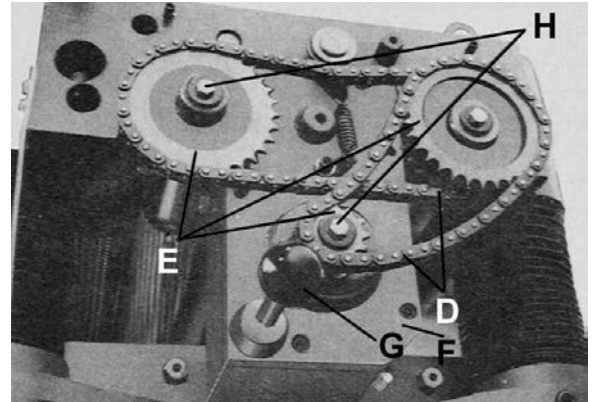
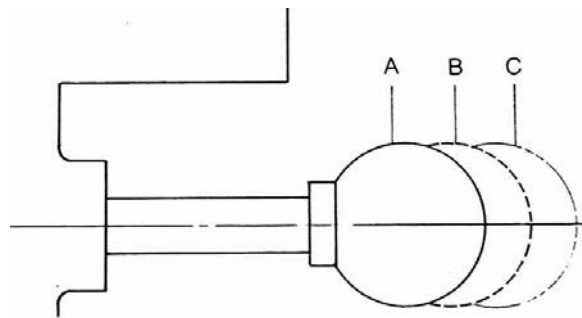

FIGURE 27
FIGURE 28
Your Planer is equipped with a spiral, serrated infeed roller and a solid steel outfeed roller. When the feed rollers are engaged, they turn to feed stock. The feed rollers slow down automatically when the Planer is under heavy load. The feed rollers are driven by chains (D) Fig. 27 and the sprockets (E), which take power directly from the cutterhead through the oil gear box (F).
There are two feed speeds in the gear box, they are controlled by using the speed shift lever (G) Fig.27. When the speed shift lever is completely pushed in (A) Fig.28, the feed speed rate is 20 ft./min., when it is completely pulled out (C) the feed speed rate is 16 ft./min. and the center position (B) is a neutral setting.